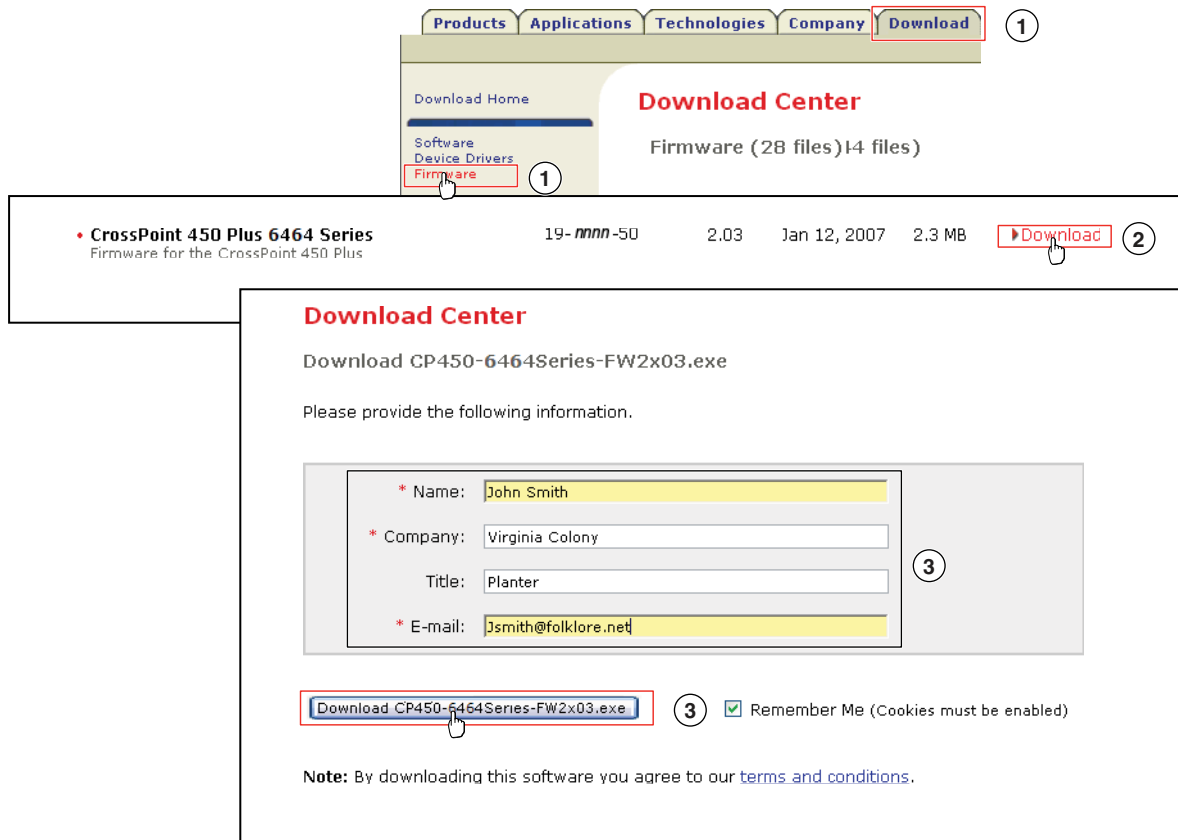

Figure 5-8 — Location of firmware upgrade files
1. Visit the Extron Web site, www.extron.com, click the **Download** tab, and then click the **Firmware** link (figure 5-8).